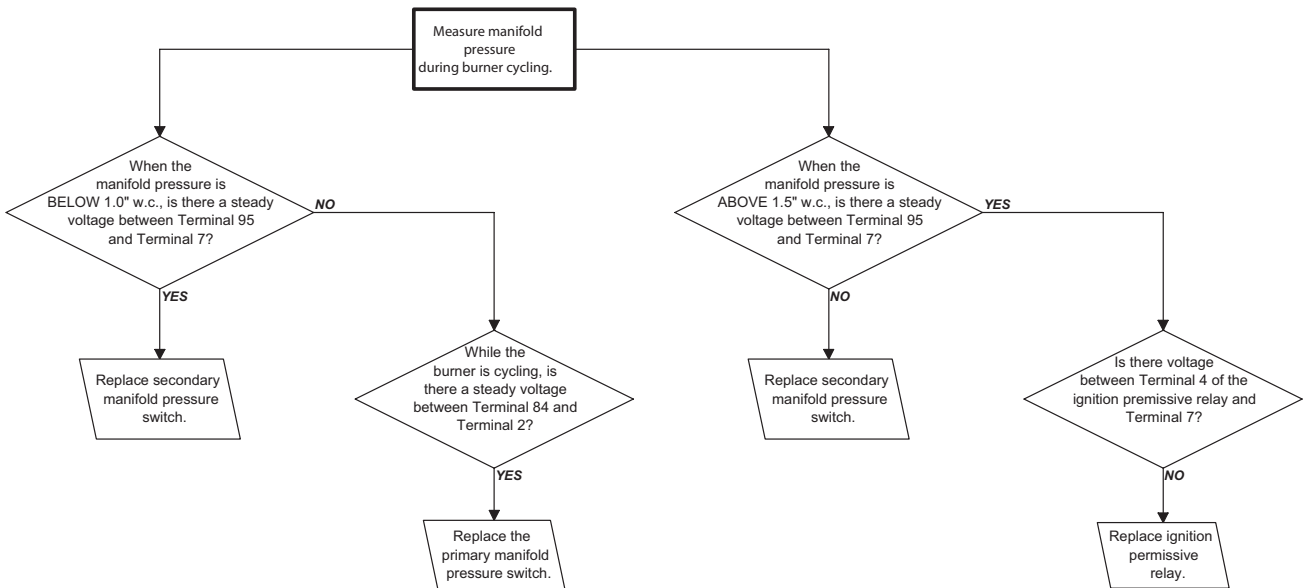

Figure 17. Troubleshooting Guide for Checking Bypass Combustion Air Damper Safety Circuit on Units with Option AG39, AG40, AG41, or AG42
- The gas supply (refer to pressure requirements in Table 18) connects to the single-stage gas valve. To compensate for additional pressure loss through the modulating valve, the single-stage gas valve has a custom outlet pressure setting higher than when it is used on a standard gas manifold. The pilot tubing connects to the pilot port on the single-stage gas valve. Refer to Figure 17 for troubleshooting options AG39 and AG41.
- Refer to Table 18 for options AG40 and AG41 pressure requirements and to Figure 17 for troubleshooting options AG40 and AG41.